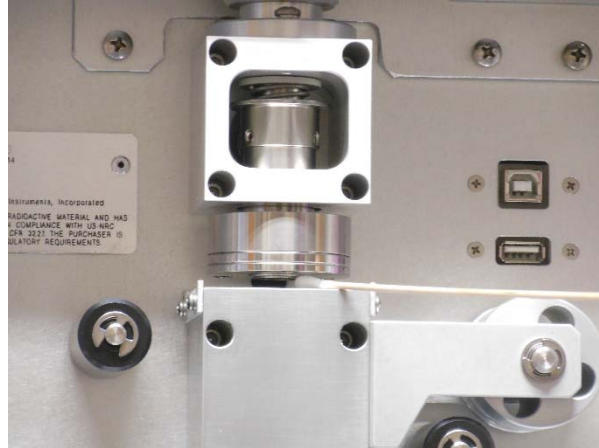

Figure 5-6 Cleaning the E-BAM Nozzle and Vane with a Cotton-Tipped Applicator
4. Thoroughly clean the nozzle sealing surface and the vane crosshairs with a cotton-tipped applicator and isopropyl alcohol (see Figure 5-6). Any hardened deposits may have to be carefully scraped off with the wooden end of the applicator.